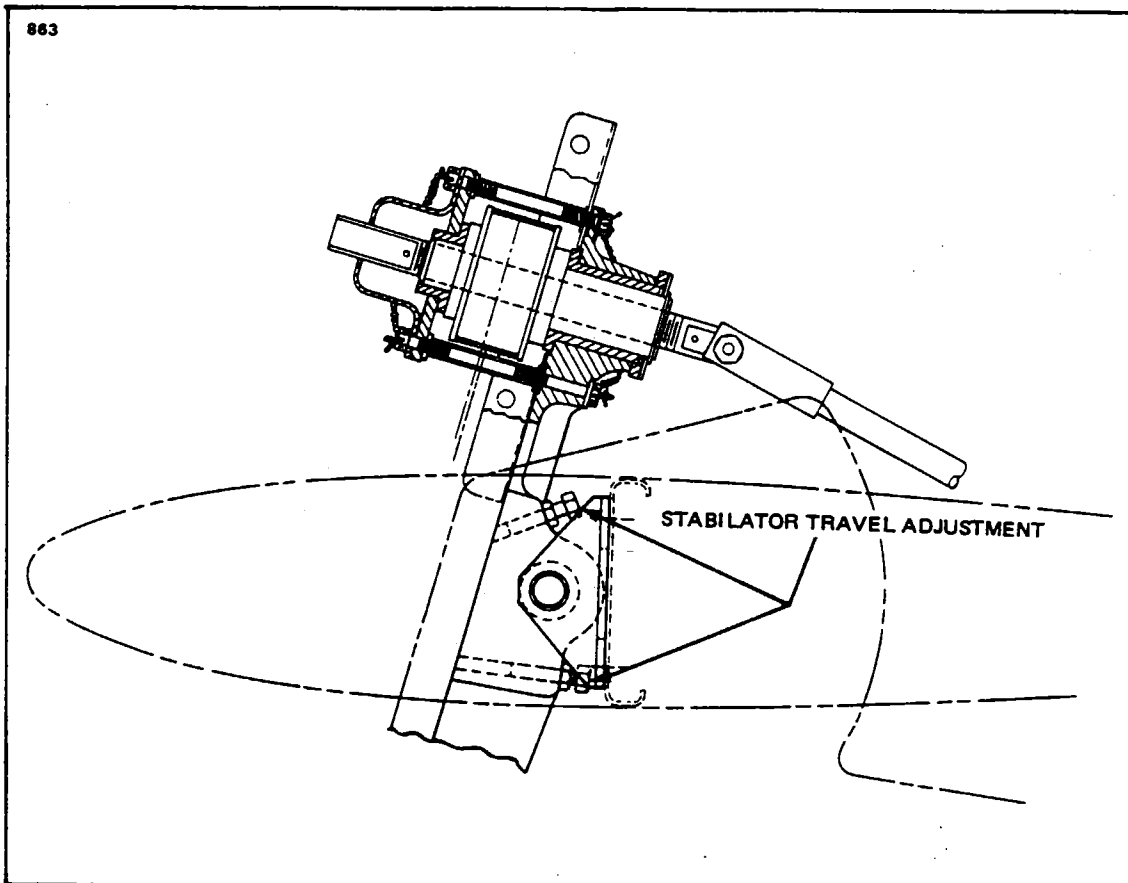

Figure 5-7. Stabilator Travel Adjustments
6. Should the stabilator travel be incorrect in either the up or down position, remove the fin tip by removing the attachment screws and with the use of the rigging tool and bubble protractor turn the stops located at each stabilator hinge in or out to obtain the correct degree of travel. (Refer to Figure 5-7.)